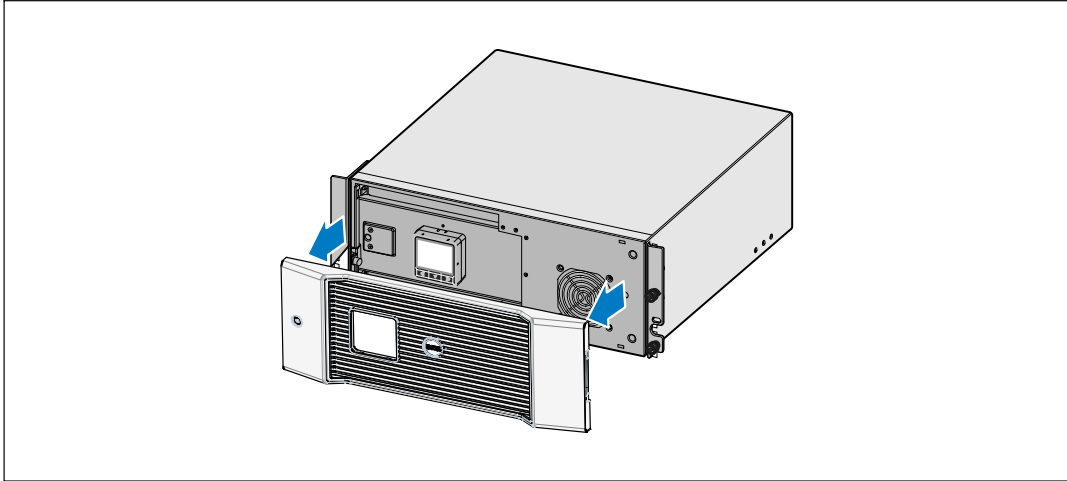

Figure 26. Removing the UPS Front Cover
- 3 Remove the UPS front cover (see Figure 26).